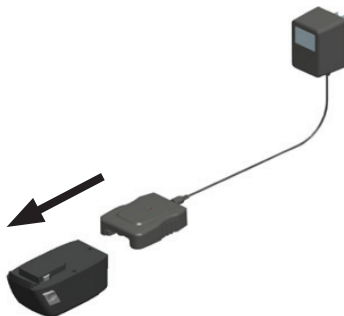

Figure 3 - Slid Charger onto Battery
3. Slide the charger onto the battery pack as shown in Figure 3. The LED will light up, Let the battery pack charge until red LED turns off. After the initial charge, under normal usage, your battery pack should be fully charged in 3 to 9 hours.